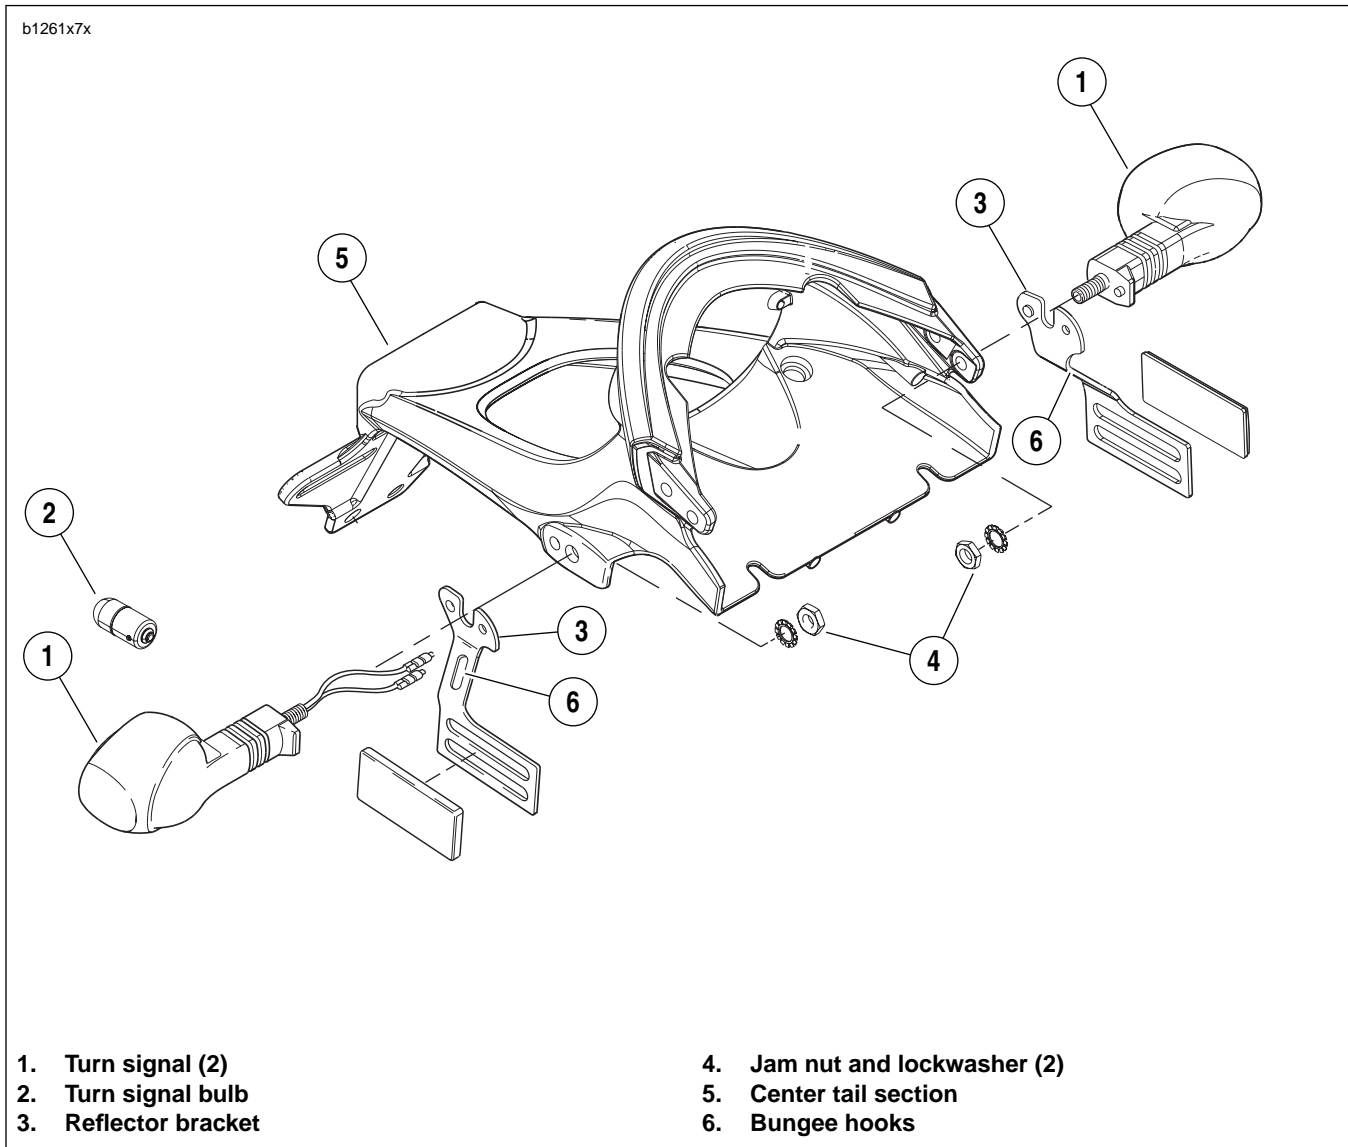

Figure 7-60. Rear Turn Signals
3. See Figure 7-60. Remove fastener and lockwasher (4).
3. See Figure 7-60. Attach turn signal using lockwasher and fastener (4). Tighten fastener to 25-28 **in-lbs** (2.8-3.2 Nm).